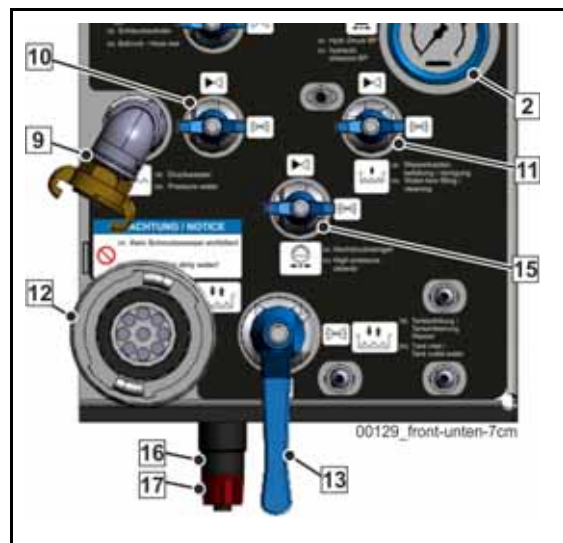

Fig. 484
- Lock the connection to the water case by switching the ball valve (15) (**Fig. 484**) on the supply control.